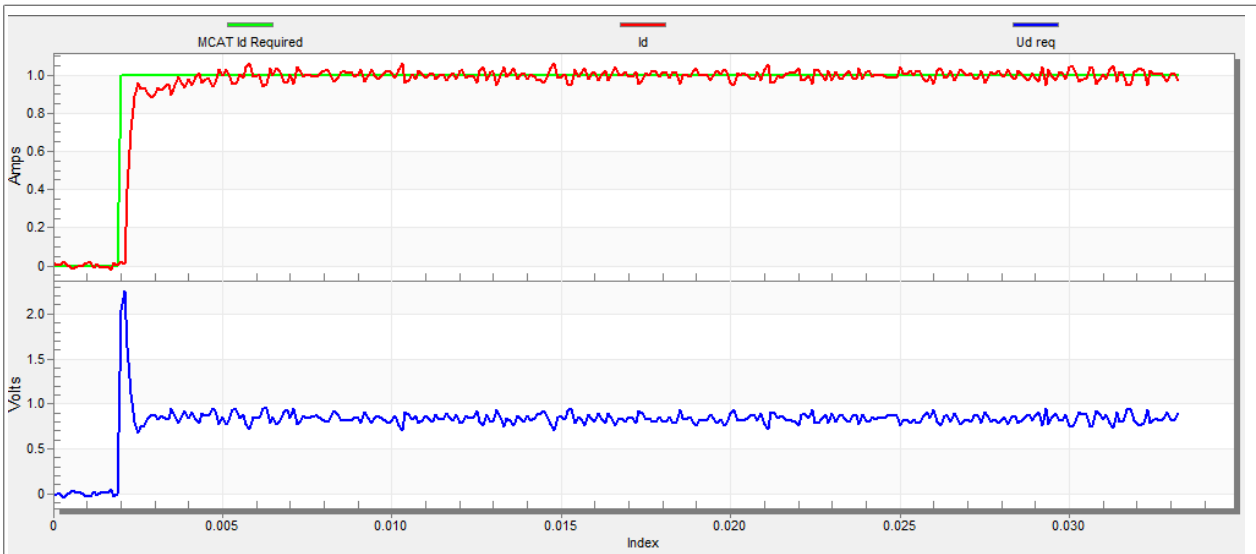

Figure 28. Optimal step response of the Id current controller
- The loop bandwidth (400 Hz) is optimal and the response time of the Id current is sufficient (see Figure 28).